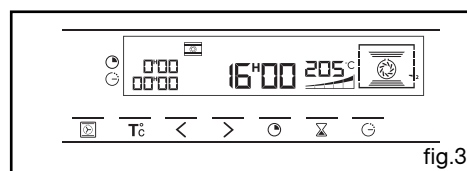

fig.3
- the cooking time indicator and 00:00 both flash (fig.3),
- the cooking time indicator and 0:00 both flash (fig.3),